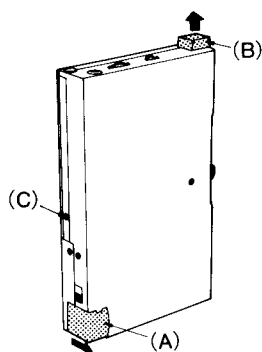

Fig. 1
HOW TO REMOVE THE UPPER CABINET ASS'Y (Shown in Fig. 1~6)
1. Remove the battery cover (A)×1. (Fig. 1)
2. Remove the separate microphone (B)×1. (Fig. 1)
3. Take out the screws (C)×2 (1.1×1.4)mm, and press the STOP/EJECT button to open the cassette lid. (Fig. 1, 2)